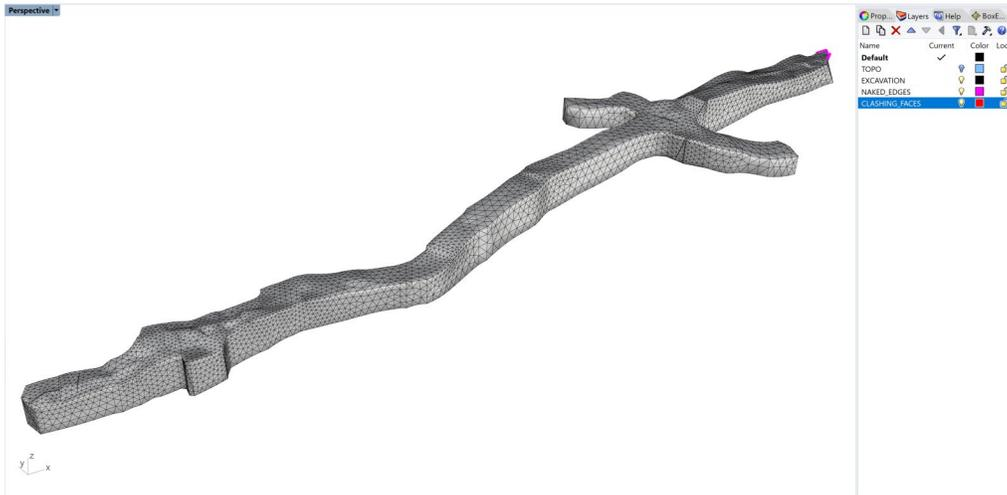

Figure 70: Remeshed and fixed drift mesh. (The grid and topographic mesh are not shown.)
14. Select the drift mesh only and fix the remaining issues by calling **_GHeal** → *AutomaticHeal* → *IssuesToFix*, set *RemoveProtrusions = Yes* and all others to *No*, press **Enter**, and keep *Parameters = Automatic*. After fixing the drift mesh, the only remaining problems are a few faces that stick out from the front part of the drift as shown by the pink outlines in Figure 70. They will be resolved later when finalizing model construction.